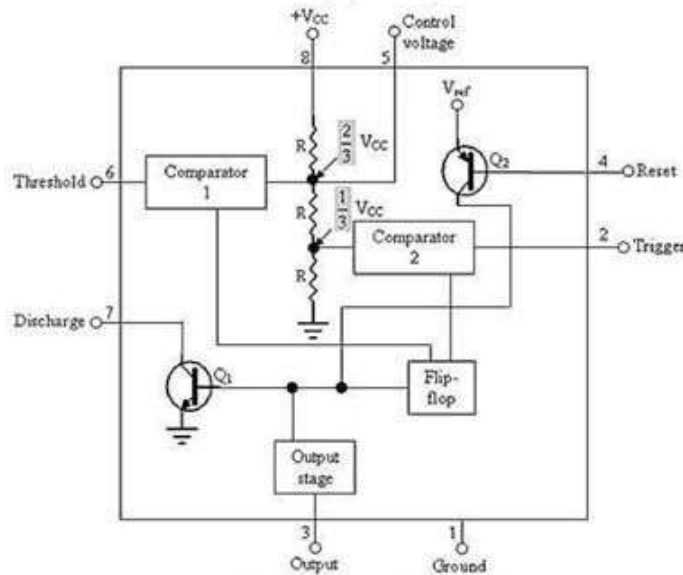

Figure 5.4.2. Block diagram of IC555 Timer
From the above figure 5.4.2 three 5k internal resistors act as voltage divider providing bias voltage of $\frac{2}{3}V_{cc}$ to the upper comparator & $\frac{1}{3}V_{cc}$ to the lower comparator. It is possible to vary time electronically by applying a modulation voltage to the control voltage input terminal (5).